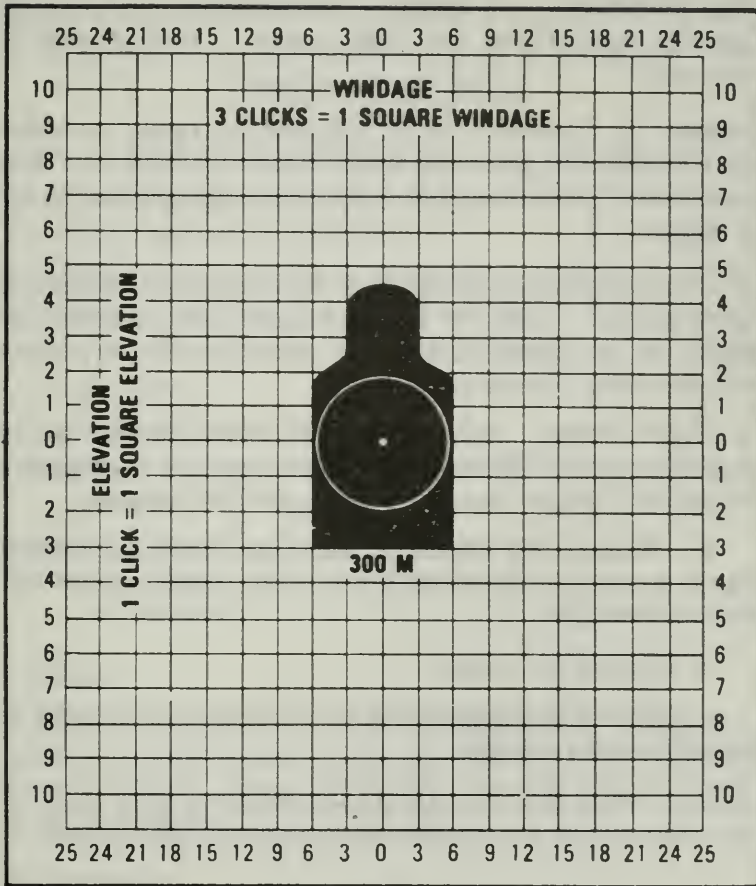

Figure 112. 25-meter zero target.
(2) Carefully aim and fire each shot of a three-round shot group at the circle on the silhouette (Figure 112).
(3) If your shot group is not within the circle on the silhouette, use the squares on the target to determine the required clicks to move your next shot group into the circle (Figure 112).